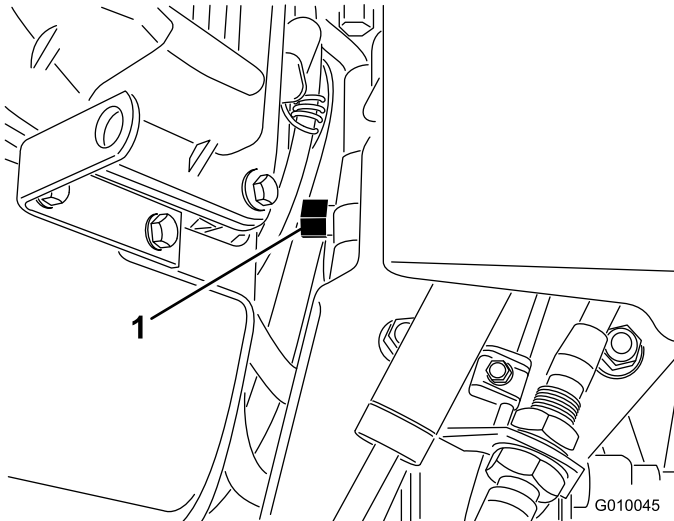

Figure 31
2. Locate the by-pass valve between the engine and hydrostatic pump (Figure 31).
3. Using a 5/8 inch wrench, rotate the by-pass valve counterclockwise 1 turn. This allows the hydraulic fluid to by-pass the pump enabling the wheels to turn (Figure 31).
5. To operate the aerator again, rotate the by-pass valve clockwise 1 turn (Figure 31).